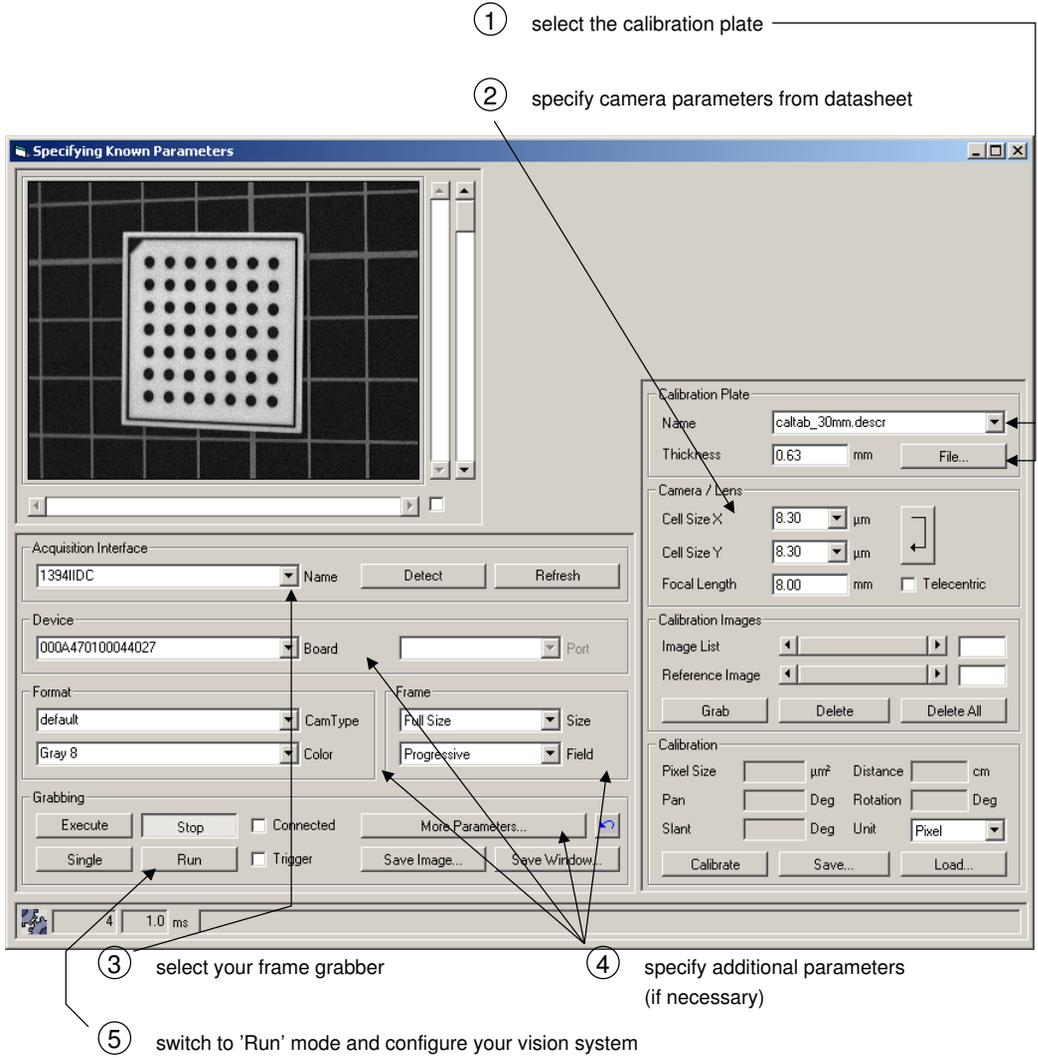

Figure 2.1: Specifying parameters of the vision system.
The following steps are visualized in figure 2.1.
- ① First of all, select the description file of the calibration plate you are using in the combo box `Name` or via the file selection dialog. If you want to experiment with the calibration image sequence `calib\calib_3cm_1.seq`, select '`caltab_30mm.descr`'.
- ② In the datasheet of your camera, look up the cell size and enter the values in the text fields `Cell Size X` and `Cell Size Y`. The value for the field `Focal Length` can typically be found on the lens itself. If you are using a telecentric lens, check the corresponding box. Figure 2.1 shows the correct settings for the calibration image sequence.
- ③ Now, select your image acquisition device in the combo box `Name` of AVTViewFG. If you want to experiment with the calibration image sequence, select '`File`'.
- ④ Depending on the image acquisition device, you may need to specify additional parameters. Please consult the User's Manual for ActivView, section 2.1 on page 16, for more information. If you want to work with subsampled images, i.e., images where only every second pixel in both image dimensions is used, select '`Half Size`' in the the combo box `Size`.
- ⑤ By clicking you connect to the image acquisition device and switch it to the continuous grabbing mode at the same time. In this mode you can configure your vision system, e.g., adapt the focus or the aperture.